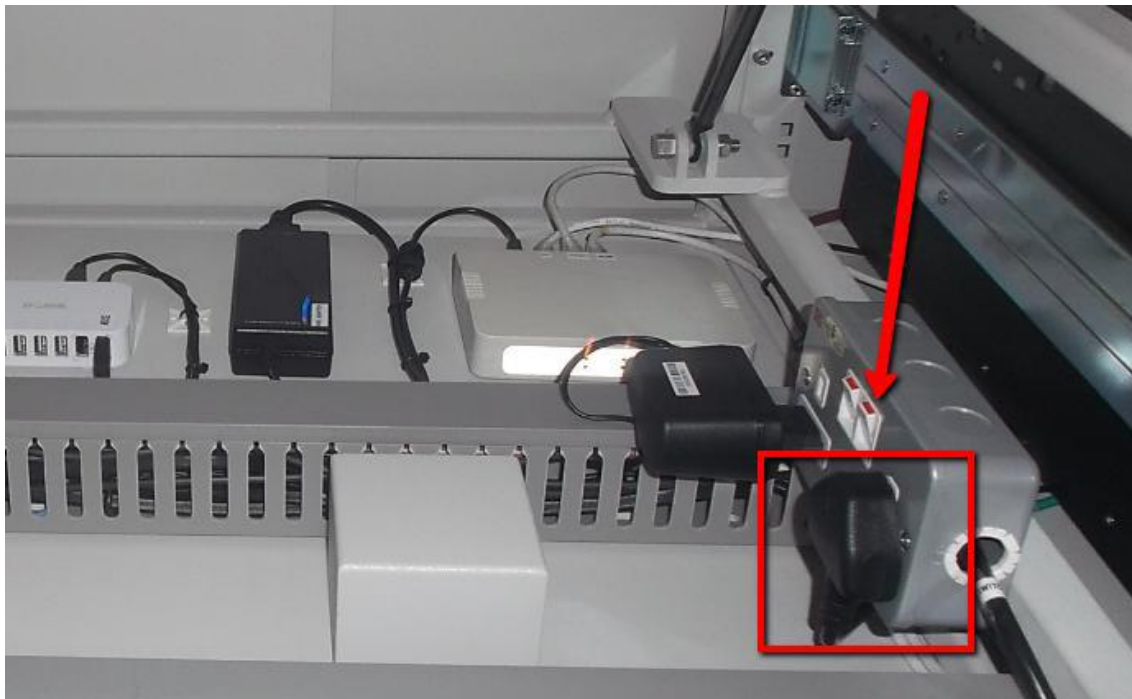

Figure 4 3 PIN PLUG POWER SWITCH
- Turn Off 3 PIN PLUG Switch as below Figure 4. (Remarks : Power supply for POE Switch)